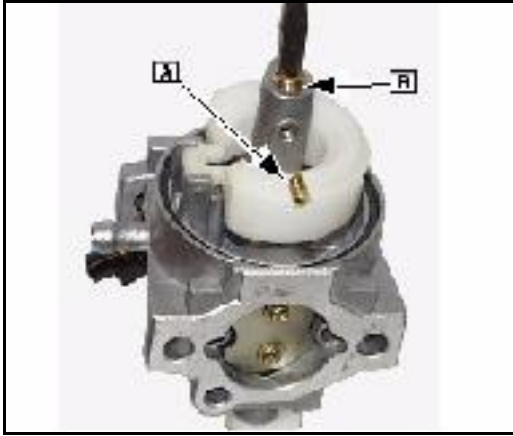

Fig. 29
CAUTION: Main jet (A) Fig. 29) must be removed before emulsion tube (B) is removed or damage to threads of the emulsion tube will result.
3. Remove main jet (A).
4. Remove carburetor emulsion tube (B) Fig. 29) with screwdriver #19061.